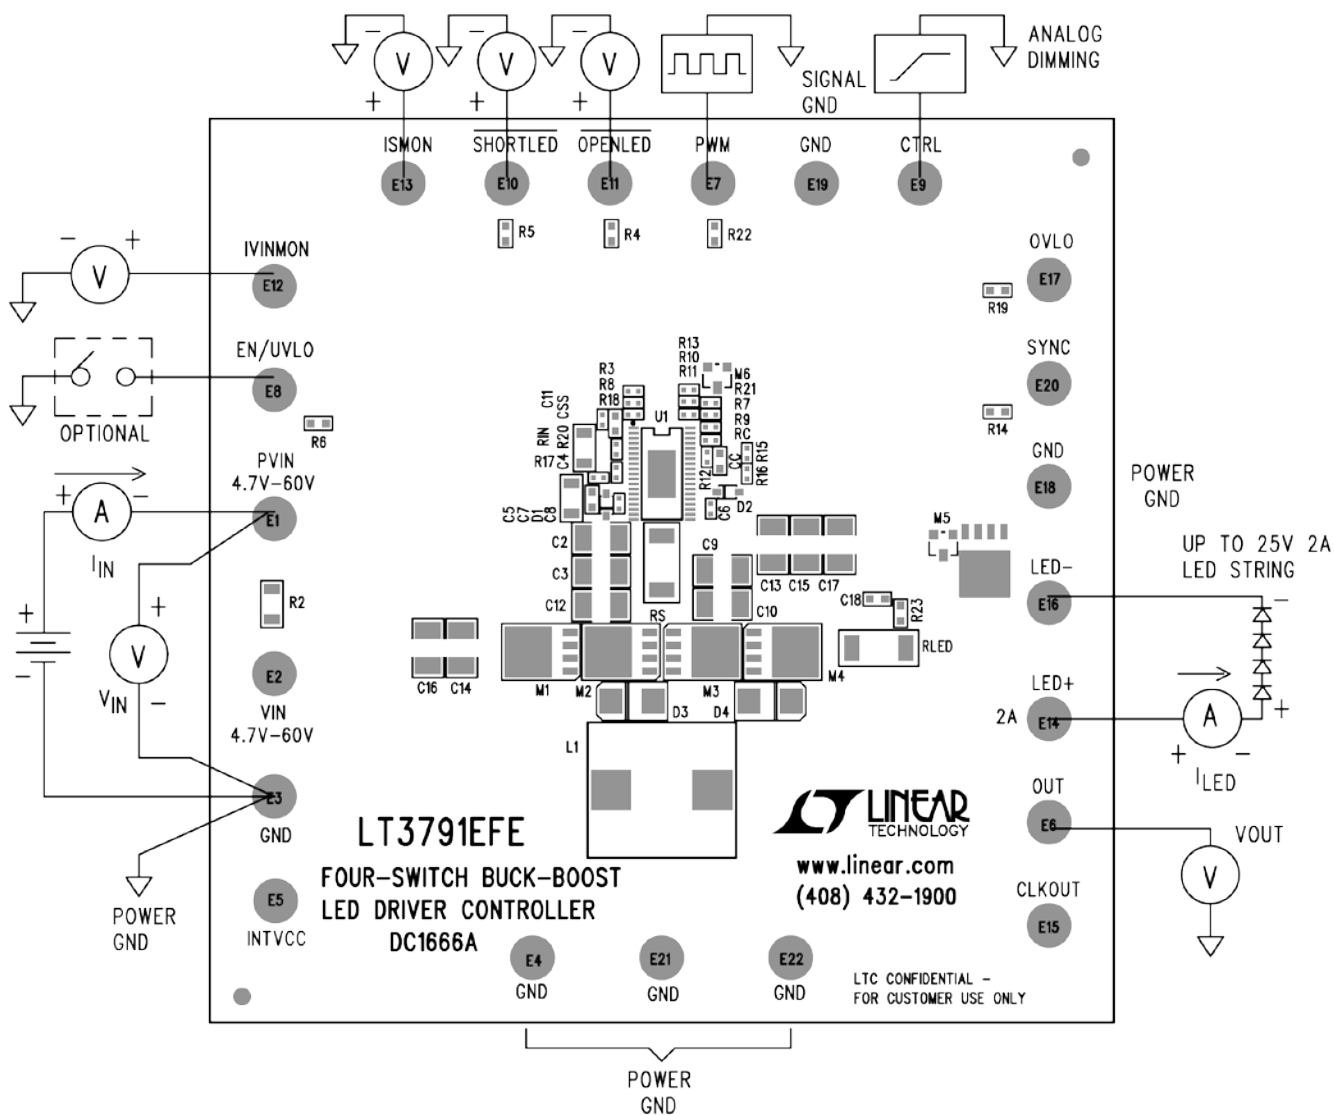

Figure 1. Test Procedure Setup Drawing for DC1666A
1. Connect a string of LEDs that will run with forward voltage less than 25.5V, but greater than 9.5V, to the LED+ and LED- terminals on the PCB as shown in Figure 1.